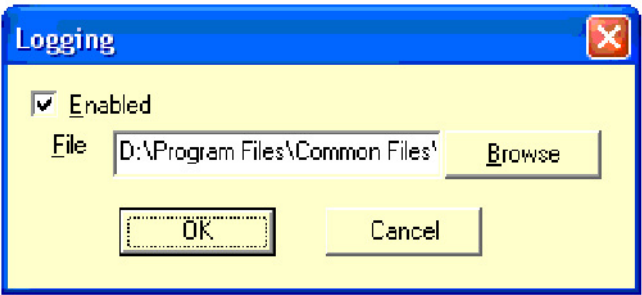

FIGURE 151. LOGGING DIALOG
**Options-Logging:** This option provides you with a means to assign a location for storing strip log files. The default file location is listed on the menu (Figure 151). If necessary, select the **Browse** button to select another location. Logging can be enabled from this menu. When all adjustments are completed, click on the **OK** button.